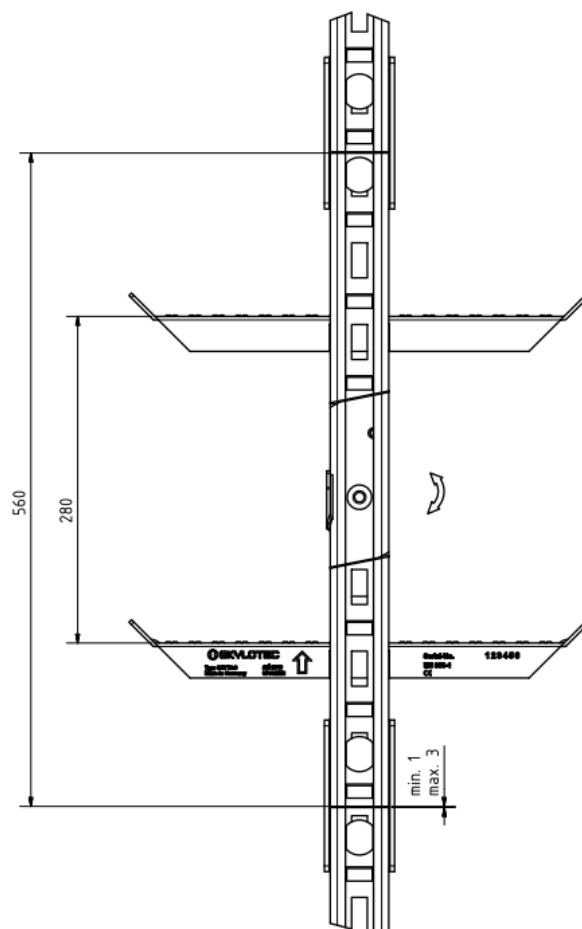

Figure 13: Installation dimensions
7.1.6 Installation dimensions to be observed (Figure 13)